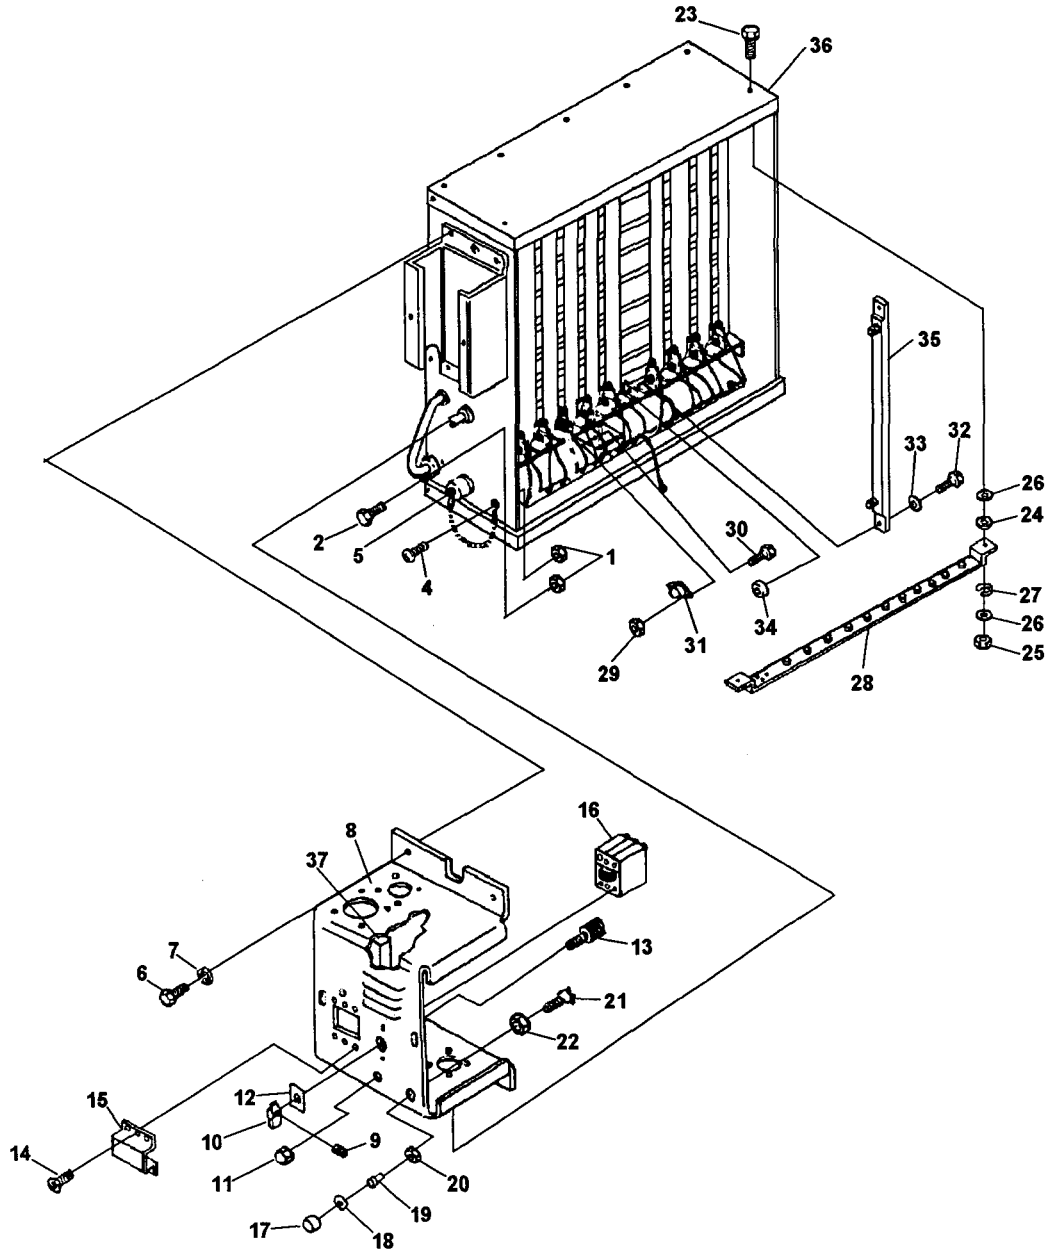

Figure 5-12. Load Bank Assembly, Exploded View
- b. Visually inspect voltage selector connectors (3, Figure 5-12) and load selector switch (13, Figure 5-12) for freedom of movement between positions, insecure mounting, loose connections, loose or broken control knob and other damage.
- (1) Removal.
- (a) Refer to paragraph 5-21 c. (1) above and remove load bank assembly from generator set.
- (b) Remove nuts (1, Figure 5-12) and screws (2) and pull voltage selector connectors (3) out from load bank.
- (d) Do not remove screw and captive washer assembly (4) and protective cap (5) unless inspection reveals damage.
- (2) Cleaning and Inspection.
- (3) Installation.
- (a) If removed, install protective cap (5, Figure 5-12) and screw and captive washer assembly (4).
- (c) Push voltage selector connectors (3) onto load bank and install screws (2) and nuts (1).
- (a) Remove screws (6, Figure 5-12) and lockwashers (7) and pull control box cover (8) away from load bank
- (c) Remove setscrew (9) and control knob (10).
- (d) Remove screws (11) to remove load selector plate (12) and switch (13).
- (3) Testing.
- (4) Installation.
- (a) Install switch (13, Figure 5-12), load selector plate (12), and screws (11).
- (b) Install control knob (10), and setscrew (9).
- (d) Install control box cover (8) onto load bank with lockwashers (7), and screws (6).
- (a) Remove control box cover as outlined in subparagraph c. (1) (a) above.
- (c) Remove screws (14, Figure 5-12) to remove cover (15) and circuit breaker (16).
- (a) Install circuit breaker (16, Figure 5-12), cover (15), and screws (14).
- (c) Install control box cover as outlined in subparagraphs c. (4) (a) above.
- (c) Unscrew lens (17) and remove O-ring (18) and lamp (19).
- (d) Remove nut (20) to remove base (21) and nut (22).
- (a) Install nut (22, Figure 5-12), base (21), and nut (20).
- (b) Install lamp (19), O-ring (18), and screw lens (17).
- (d) Install control box cover as outlined in subparagraph c. (4) (a) above.
- (a) Remove load bank assembly as outlined in paragraph 5-21 c. (1) above.
- (c) Remove screws (23, Figure 5-12), plastic washers (24), nuts (25), flat washers (26) and washers (27) to remove terminal board assembly (28).
- (a) Install terminal board assembly (28, Figure 5-12), washers (27), flatwashers (26), nuts (25), plastic washers (24), and screws (23).
- (c) Remove nuts (29, Figure 5-12) and screw and captive washer assemblies (30) to remove thermostat switch (31).